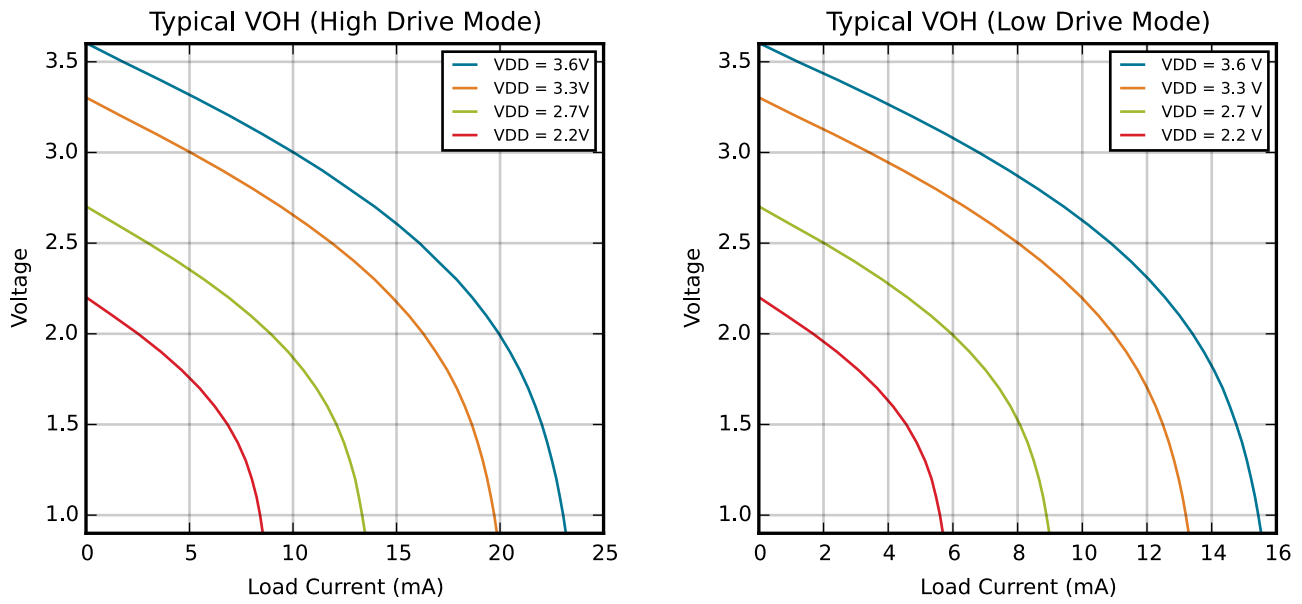
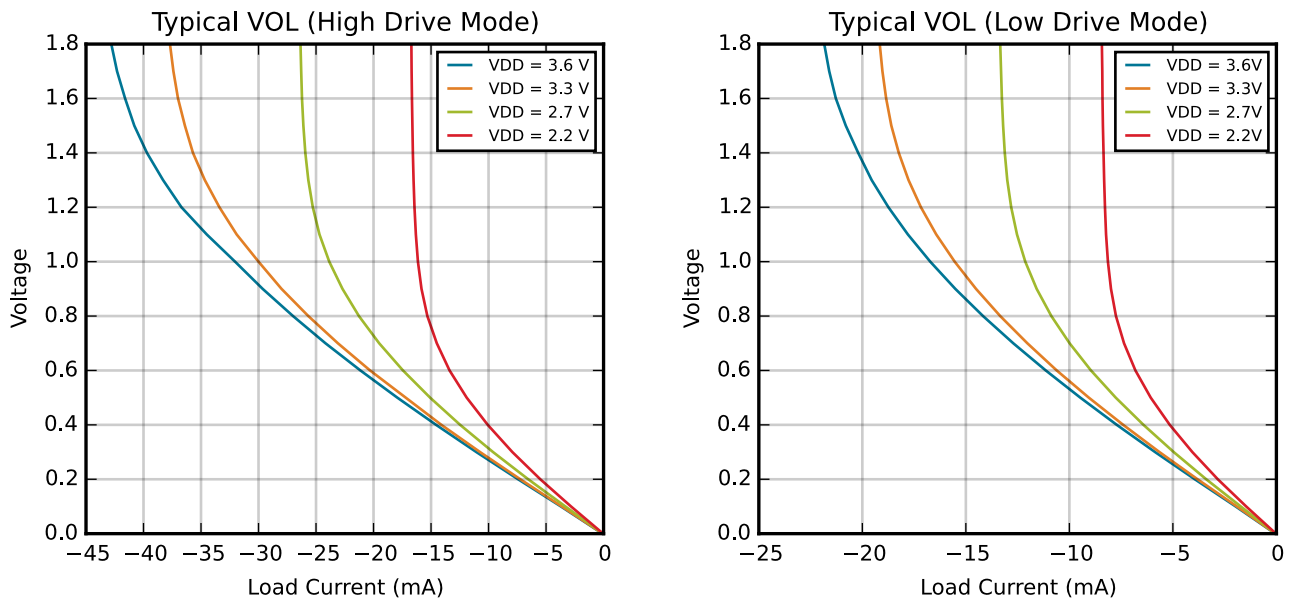

Figure 4.6. Typical V_{OH} Curves
Figure 4.7. Typical V_{OL} Curves
1. See Figure 4.6 Typical V_{OH} Curves on page 33 and Figure 4.7 Typical V_{OL} Curves on page 33 for more information.